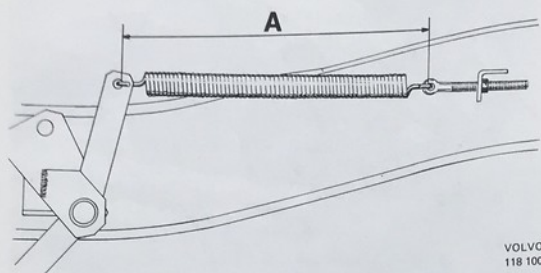

Fig. 92-42. Check-measurement for spring
13. Adjust the cable drum brake with the adjusting screw so that the distance A is 320 mm (12.5 in.), see Fig. 92-42.